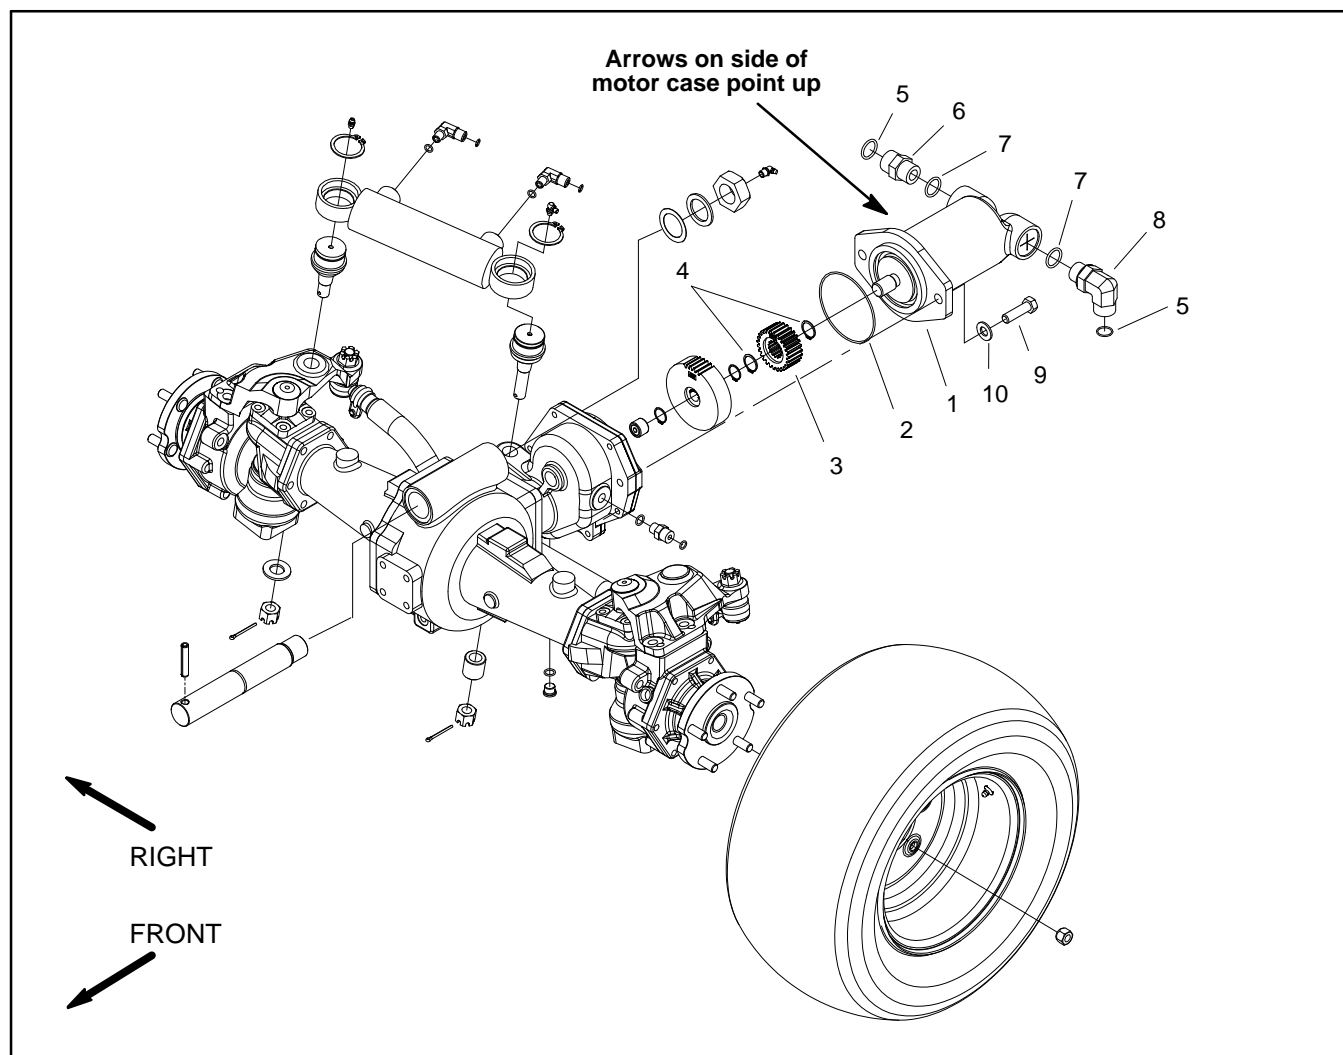

Figure 64
**Removal (Fig. 64)**
5. Remove motor using Figure 64 as a guide.
**Installation (Fig. 64)**